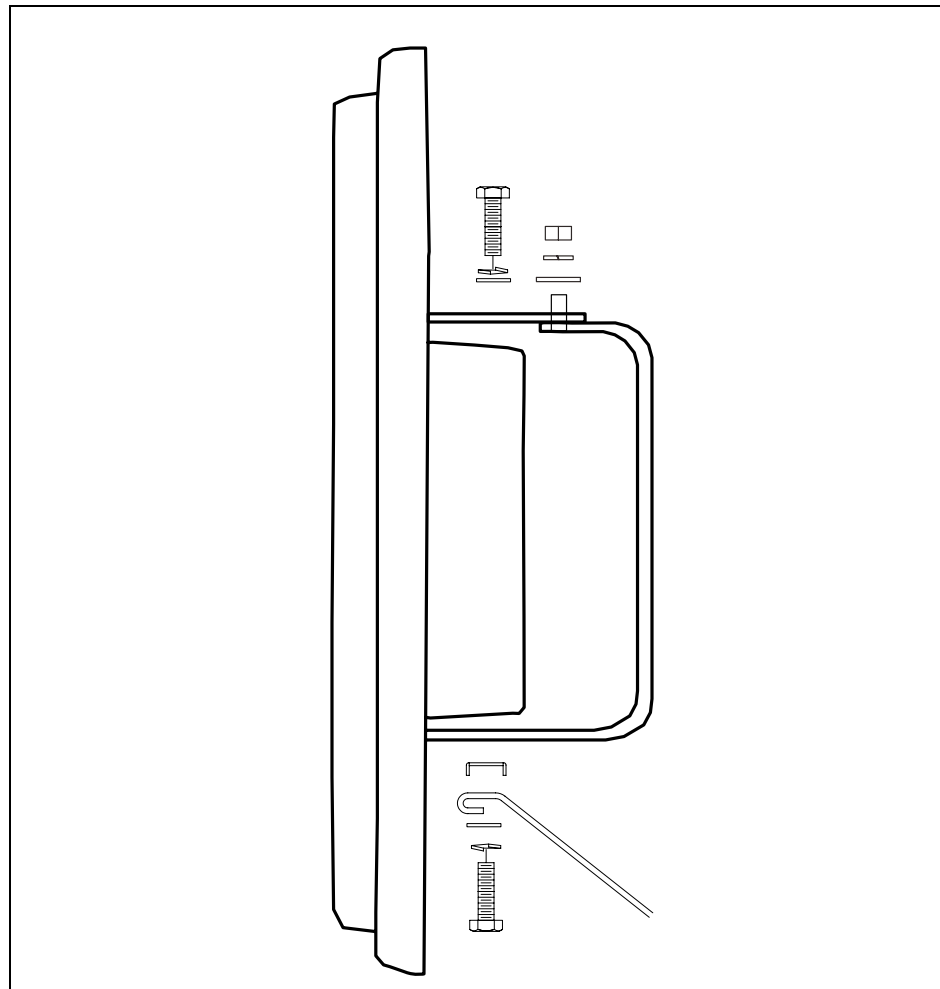

Figure 3 Mounting bracket screw assembly
- 3** Two sets of screw assemblies attach the top of the LPB to the mounting bracket. For the top of the mounting bracket, assemble the screw (coated with anti-seize compound), split lock washer and flat washer as shown in Figure 3.
- 4** Two sets of screw assemblies attach the bottom of the LPB to the mounting bracket. For the bottom of the mounting bracket, assemble the screw (coated with anti-seize compound), split lock washer, flat washer, ground wire, and double-tab washer, as shown in Figure 3.